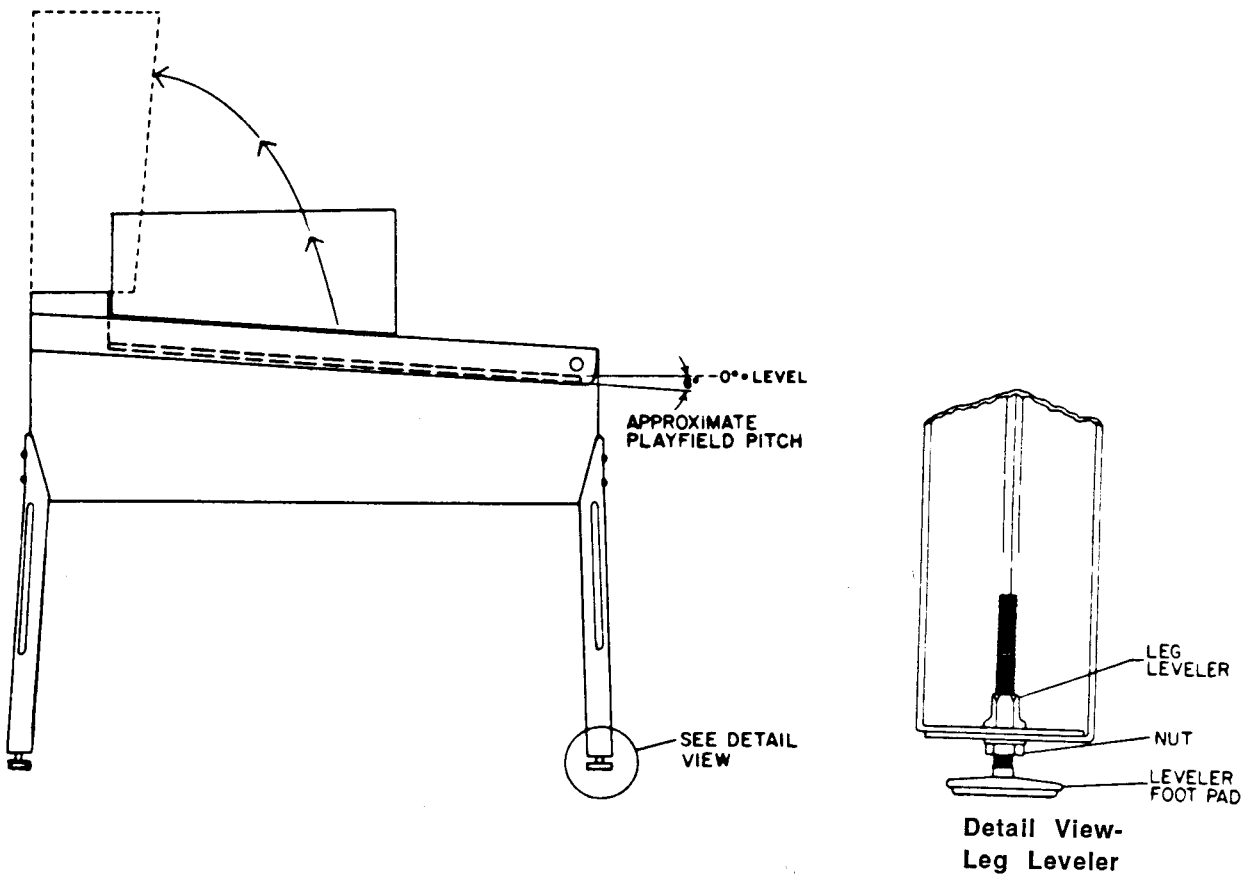

Figure 1. Pinball Assembly, Playfield Pitch Angle, and Leg Leveler Details.
3. Attach the front legs (after installing leg levellers), using leg bolts. See Figure 1 for details.
8. Adjust the leg levelers for proper playfield level (side-to-side) *and* playfield pitch angle (incline) of approximately 6 degrees. (Again, it is recommended that these measurements be made **ON** the playfield, not the cabinet nor the playfield cover glass.) Tighten the nut on each leg leveler shaft to maintain this setting, as shown in Figure 1.